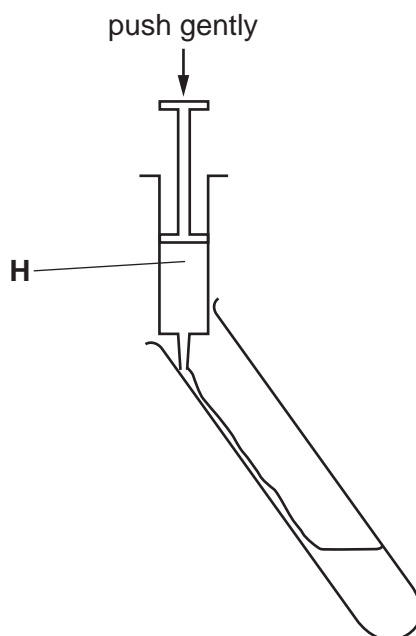

Fig. 1.3
6. Put 5 cm^3 of **H** into each labelled test-tube. This should be done by touching the nozzle of the syringe against the inside of the test-tube, as shown in Fig. 1.3. Gently push the plunger of the syringe so that **H** runs down the inside of the test-tube.